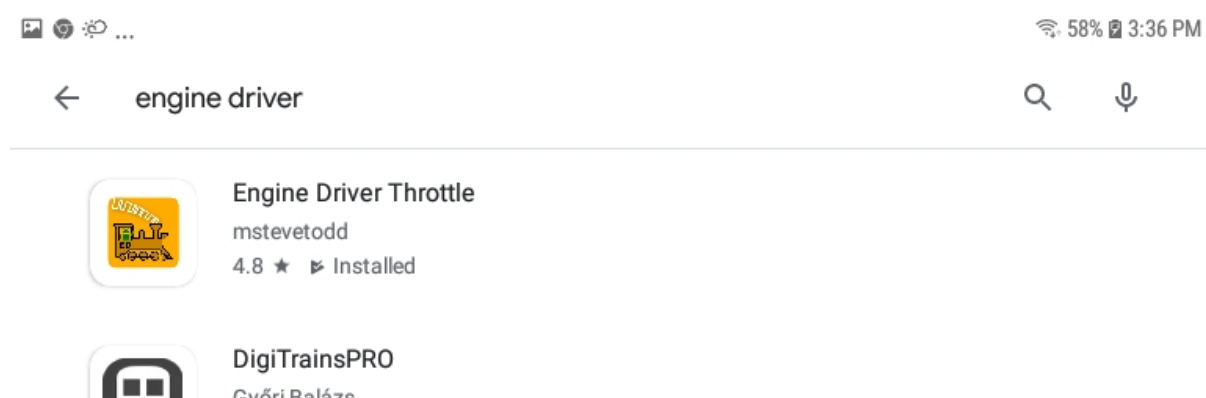

Figure 12 Searching for the Engine Driver app in Google Play Store
- (1) On your Android phone or tablet, make sure you are connected to the internet and run the Google Play Store app from the home screen:
- (2) Search for Engine Driver by M. Steve Todd, download and install it. To do this:
- b. Type “Engine Driver” into the text box and click the Search button, make sure the correct app “Engine Driver Throttle” displays as in Figure 12,
- c. Tap on the “Engine Driver Throttle app” (Figure 12). The app detail page displays.